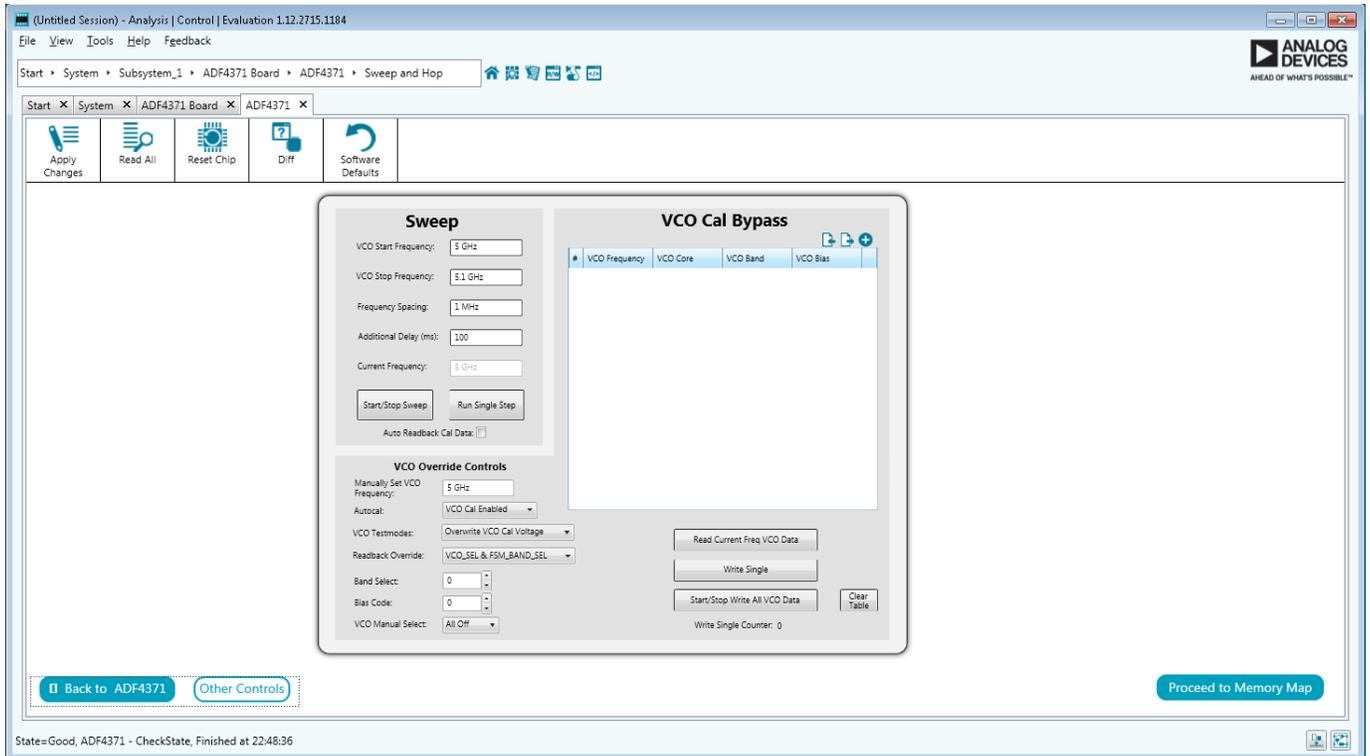

Figure 2. VCO Cal Bypass Pane
2. In the ACE main control window, click **Other Controls** to open the VCO Cal Bypass pane (see Figure 2). The VCO Cal Bypass pane contains the controls to make a slow frequency sweep and to collect and write the calibration data to the device.